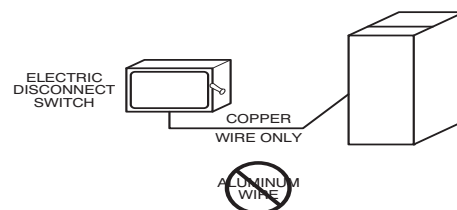

Fig. 33 – Field-Supplied External Electrical Box on Furnace Casing
1. Drill two (2) 1/8-in. (3 mm) pilot holes through the dimples in the furnace casing near the 7/8-in. knock-out on the side of the casing. Do not remove the knock-out in the side of the casing.
9. Connect field power and neutral leads to furnace power leads inside the external electrical box as shown in Fig. 33.